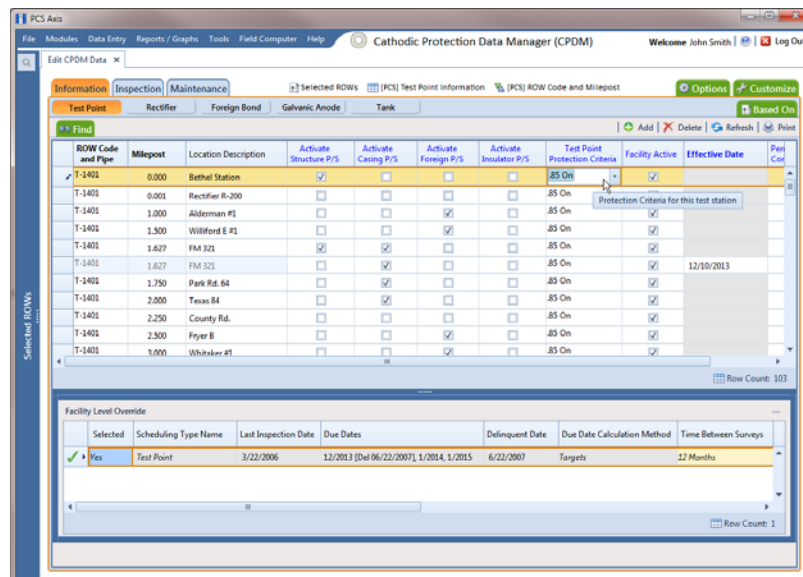

Figure 7-108. Test Point Information Grid
- 3 Open the *Test Point Information* grid. Click the **Information** tab  and then the **Test Point** button  (Figure 7-108).